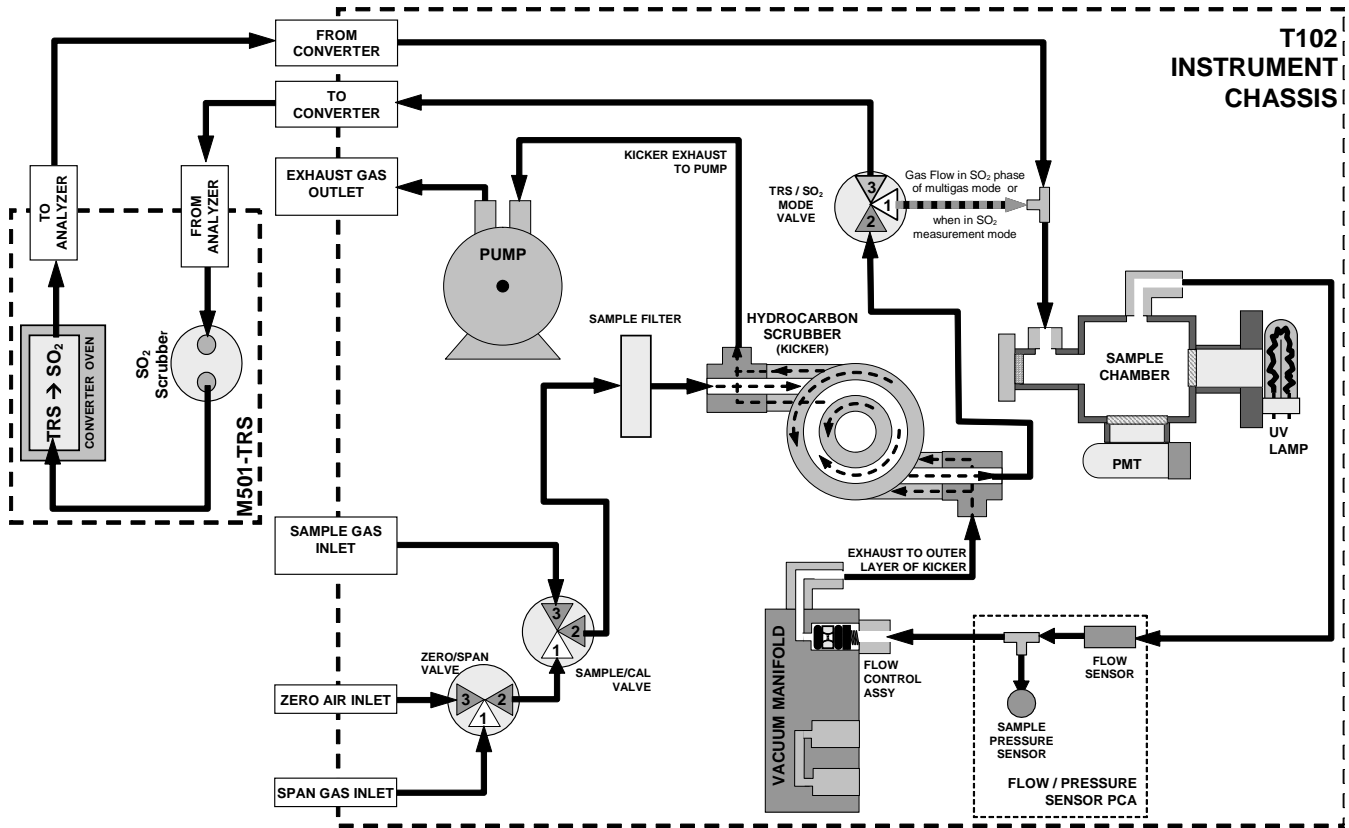

Figure 5-1. Internal Pneumatic Diagram of the T102 With Z/S Option Installed
- Figure 5-1 for an illustration of the T102 internal gas flow with the zero/span valves option